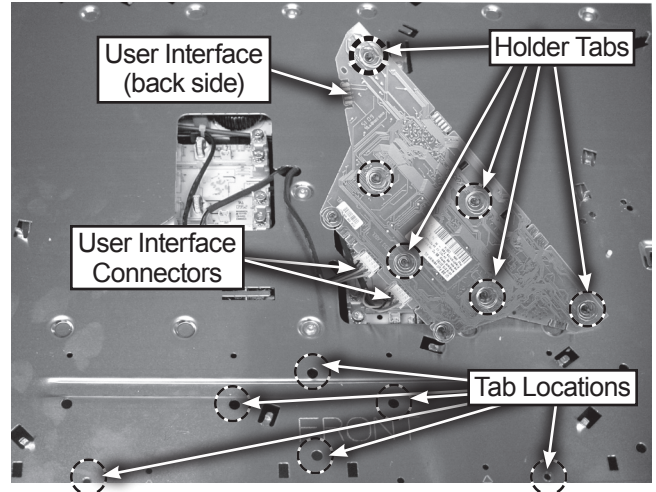
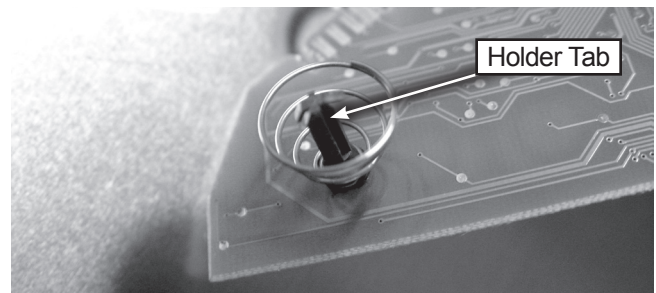

Figure 1
Figure 2
3. Gently pull up on edges of User Interface board to release holder tabs, raise the user interface, and remove the board from the tab locations, see figure 1.
5. When replacing the User Interface, be sure to engage the holder tabs into the tab location positions, see figure 1. Holder tabs are held in place by the pressure of the glass top and isolated by the springs surrounding each tab, see figure 2.